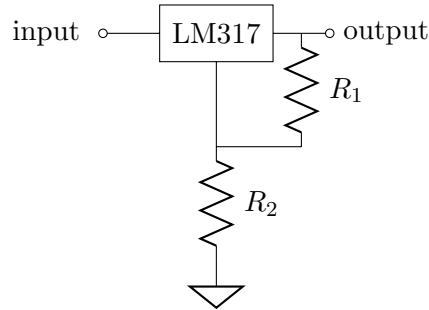

Figure 5: LM317 linear regulator circuit.
- b) For the circuit of Fig. 5, with sing an input voltage of 9V and $R_1=510\ \Omega$, what’s the value of R_2 such that the output voltage is 5 V? What is the efficiency of the regulator in this case? “LM317” refers to the Texas Instruments LM317 voltage regulator IC. You should be able to find its datasheet online.